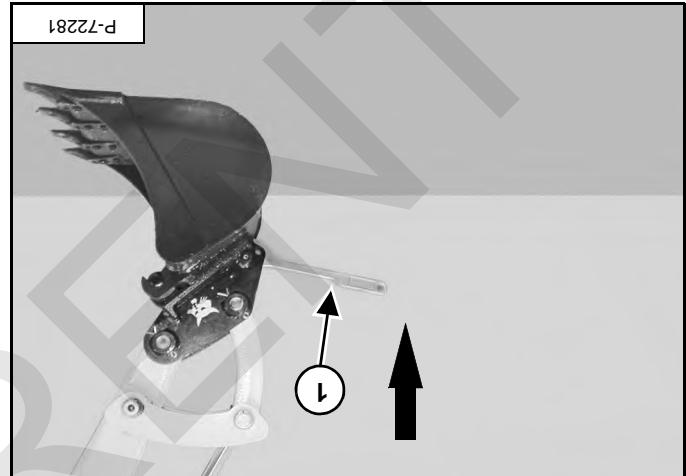

Figure 136
Push down on the tool (item 1) [Figure 136] to unlock the latch.
Install the quick coupler tool (item 1) [Figure 136] into the hole in the quick coupler.